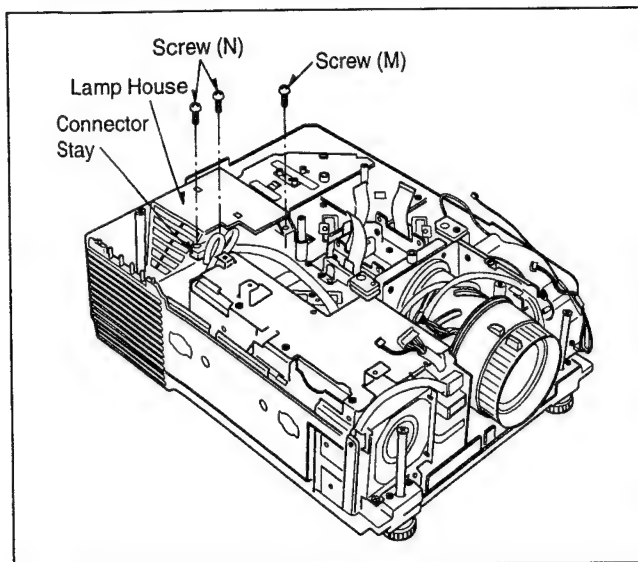

Fig. D13
2. Remove a screw (M) and 2 screws (N) as shown in Fig. D13 and remove the Connector stay and the Lamp House.